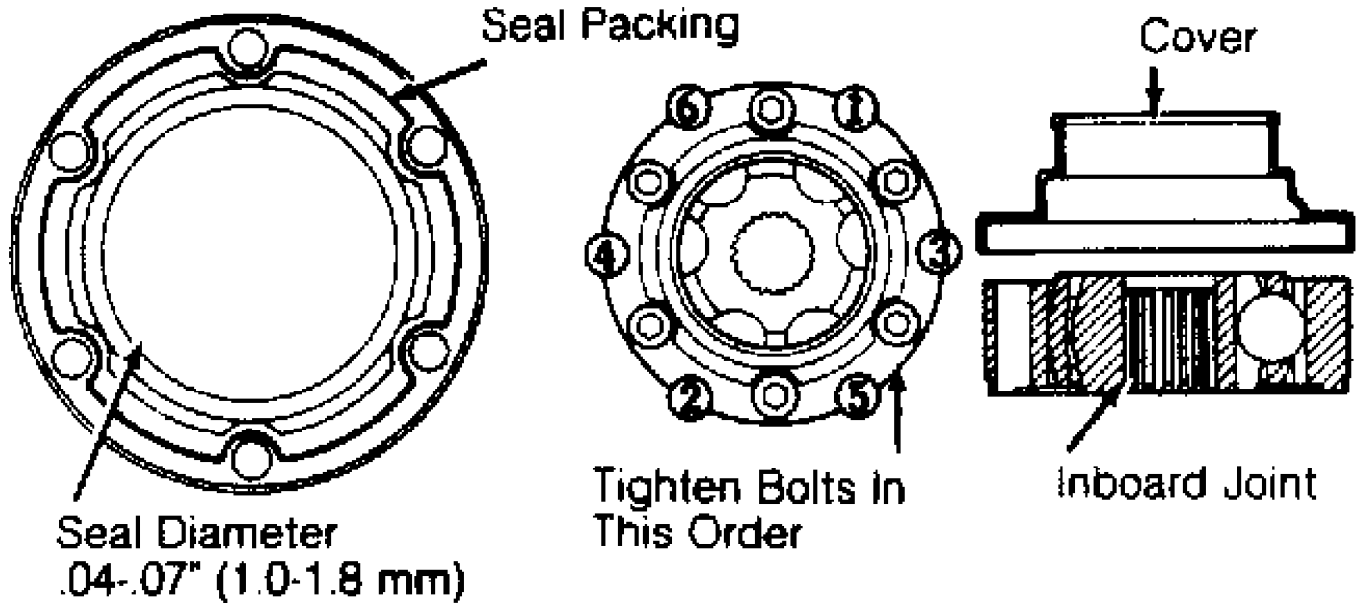

Fig. 15: Tightening Inboard CV Joint Cover
3) Apply a bead of Three Bond 1121 to inboard joint cover. See Fig. 15. Align bolt holes of cover and inboard joint, and insert Allen bolts.
4) Using plastic hammer, tap cover onto inboard joint in a star pattern. Use numbered sequence in Fig. 15 as a guide. Use bolts and washers to keep CV joint together.